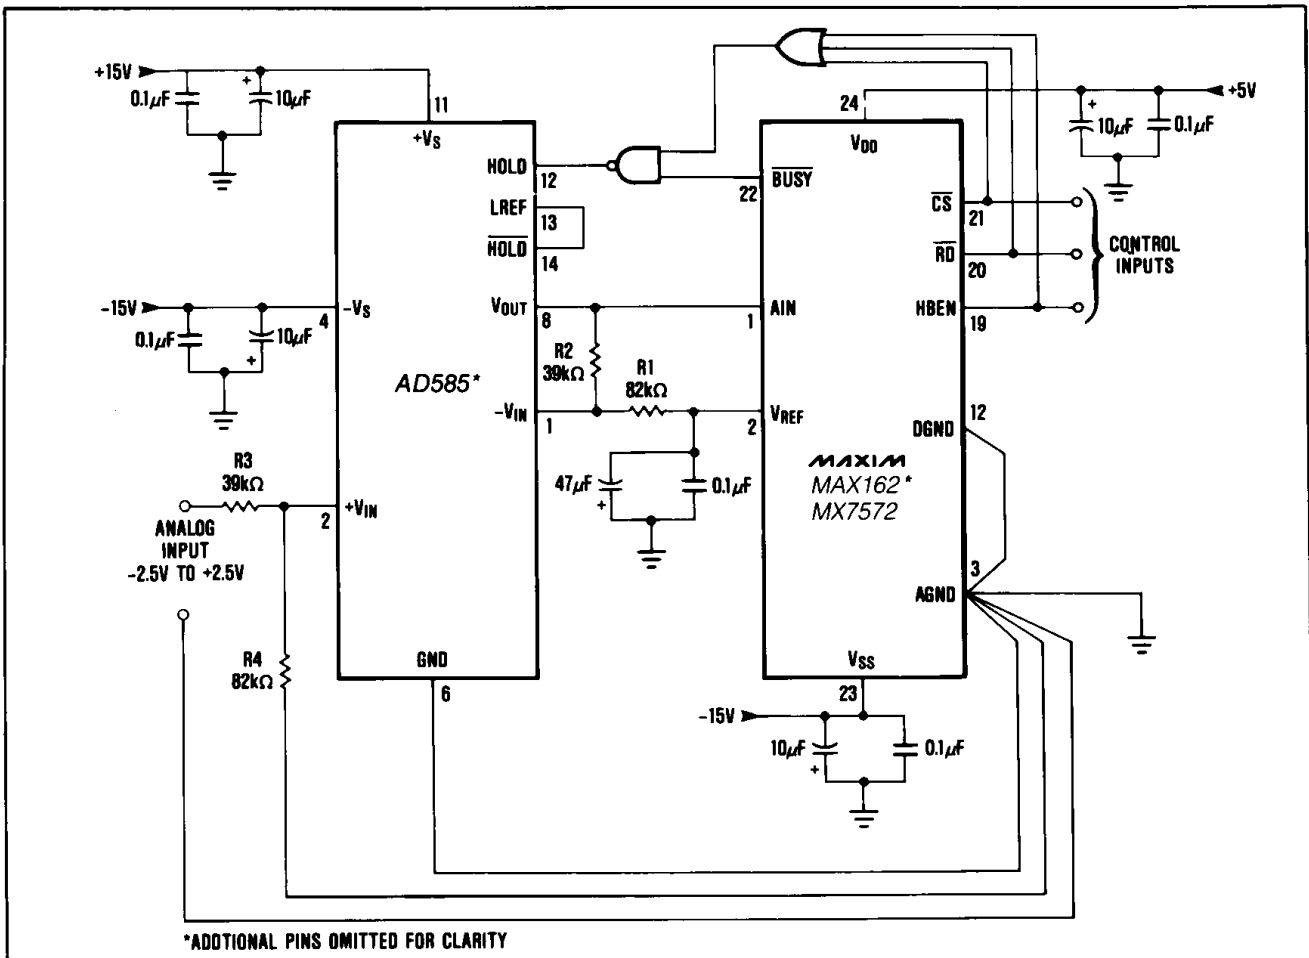

Figure 15. MX7572-AD585 Sample-and-Hold Interface
The  $\overline{\text{BUSY}}$  output from the MAX162/MX7572 may be used to provide the TRACK/HOLD signal to the sample-and-hold amplifier. However, since the ADC's DAC is switched at approximately the same time as the BUSY signal goes low, the switching transients at the output of the sample-and-hold caused by the DAC switching may result in code dependent errors due to the aperture delay of the sample-and-hold. A NAND gate may be used to ensure that the sample-and-hold switches to the hold mode BEFORE any disturbances as shown in Figures 15 & 16. The NAND gate solution works only if the width of the RD pulse is wider than the RD to  $\overline{\text{BUSY}}$  delay in the MAX162/MX7572. If this is not the case, use a flip flop which is set by the falling edge of RD and reset by the rising edge of  $\overline{\text{BUSY}}$ .
**MX7572** Figure 15 shows an AD585 sample-and-hold to MX7572 interface. The MX7572 RD input and  $\overline{\text{BUSY}}$  output are used to put the AD585 in hold mode when a conversion is in progress. In this example the analog input range is  $\pm 2.5$ V but other voltage ranges can be configured differently as explained later.